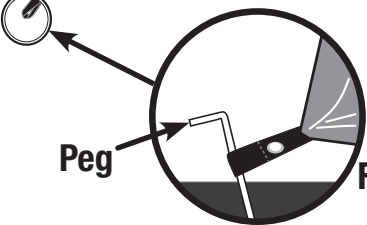

Fig. 2
- Stake down tent corners first through the webbing loops. (Fig. 2)